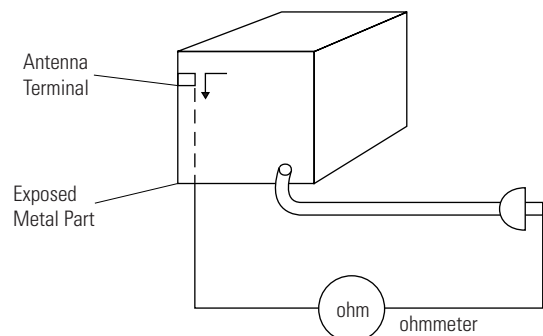

Fig. 1-2 Insulation Resistance Test
- (4) Insulation Resistance Test Cold Check-(1) Unplug the power supply cord and connect a jumper wire between the two prongs of the plug.(2) Measure the resistance with an ohmmeter between the jumpered AC plug and all exposed metallic cabinet parts on the instrument, such as screwheads, antenna, control shafts, handle brackets, etc. When an exposed metallic part has a return path to the chassis, the reading should be between 1 and 5.2 megohm. When there is no return path to the chassis, the reading must be infinite. If the reading is not within the limits specified, there is the possibility of a shock hazard, and the instrument must be repaired and rechecked before it is returned to the customer. See Fig. 1-2.